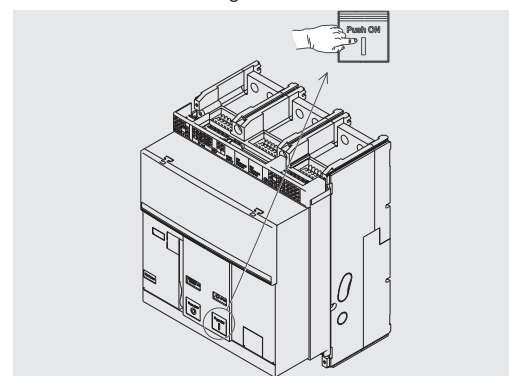

Figure 44
4. Closing - Press the closing pushbutton "I - Push ON" as indicated in Figure 44.